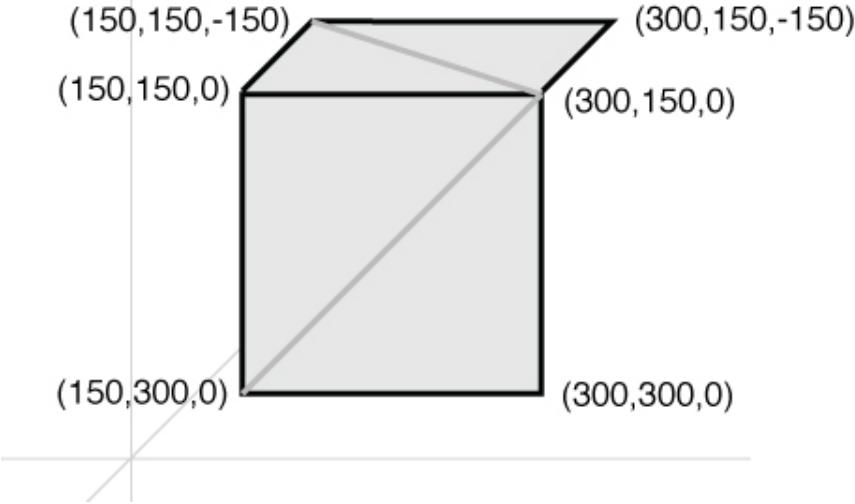

Figure 5-3. Dividing each face on the surface of a cube up into triangles so that we can draw them with Modelbuilder.
For now though, we'll start simple. We'll start by initializing our model using Modelbuilder's main class for representing shapes: `UGeometry`. Then, we'll start to create the faces of our cube. We'll break each face down into two triangles. As I explained at the start of this chapter, triangles are the basic atomic unit of 3D geometry and they're what we'll use to connect all of the depth point from the Kinect into a single smooth surface. Figure 5-3 illustrates the idea and shows some example coordinates for two sides of a
- ❶ Our work with Modelbuilder starts at the top of the sketch where we import the library and declare our `UGeometry` object. Modelbuilder comes in two parts: `unlekker.util` and `unlekker.modelbuilder`. We need both of them to create our geometry and save our STL file. As I mentioned above, `UGeometry` is Modelbuilder's chief class for describing 3D shapes. We'll be calling methods on this `model` object throughout the sketch.
- ❷ Unlike most of the sketches in this book, this one does most of its work inside of its `setup()` function. Since our geometry is not changing, we only need to create it once when the sketch starts up. Therefore all of our code that adds triangles to our `model` object goes into `setup()` instead of `draw()`. Once we've created our geometry, in `draw()` we'll just focus on displaying the model, including the rotations and translations necessary to get it to spin in place.
- ③ In `setup()` we start by initializing our `model` as a new `UGeometry` object. With that out of the way, we're almost ready to start creating our cube.
- ④ First, though, we've got to tell Modelbuilder what shape our faces are going to be. This is just like when we displayed a 3D model using `OBJLoader` back in Chapter 3. We had to tell `OBJLoader` what kind of geometrical primitives it should use to display the model. The options were: `POINTS,LINES,TRIANGLES,QUADS, POLYGON, TRIANGLE_STRIP, or QUAD_STRIP`. These same options are available to us now. We could define our geometry using any of these. We've chosen `TRIANGLES`. Therefore, we kick off the modeling process by calling `model.beginShape(TRIANGLES)`. This tells our `model` that we're going to start adding geometry to it and that this geometry will take the form of triangles.
- ⑤ After we call `beginShape()` our `model` is ready to receive triangles. We'll build up our model using its `addFace()` function. This function takes three points to define the triangle we want to add to the model. When we're talking about creating a 3D mesh we call these points "vertices" because they exist at the intersection of multiple shapes. Each of our triangles is connected to others: they share vertices in common. We saw this illustrated in Figure 5-3 where each triangle shared at least two of its points in common with other. This sharing of vertices is what turns our set of point into a continuous surface and, eventually, a solid object.